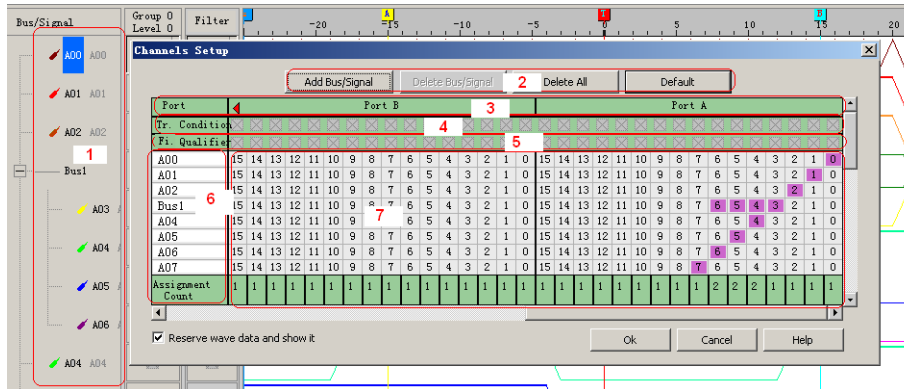

Fig 4-32 – Channels Setup Window
1. Delete Bus/Signal: Firstly highlight the Bus or channels on Area 6 of Fig 4-32, then click **Delete Bus/Signal** to delete it or them.
2. Delete All: Click **Delete All** to delete all Bus/signals on Area 6 of Fig 4-32.